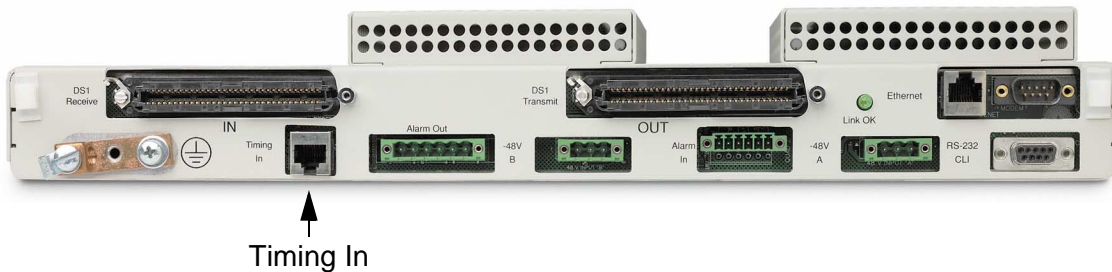

Figure 6-29. Location of Timing Input (BITS) Connector
1. Ensure that BITS input cable is connected to Timing In connector on rear panel of Access Navigator (see Figure 6-29). Plug must be pushed in until it clicks in place.